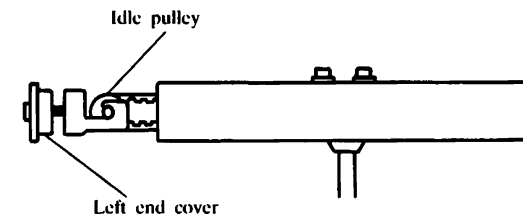

Fig. 74
- (3) Pull the Left end cover so that the idle pulley will come out. (Refer to Fig. 74)